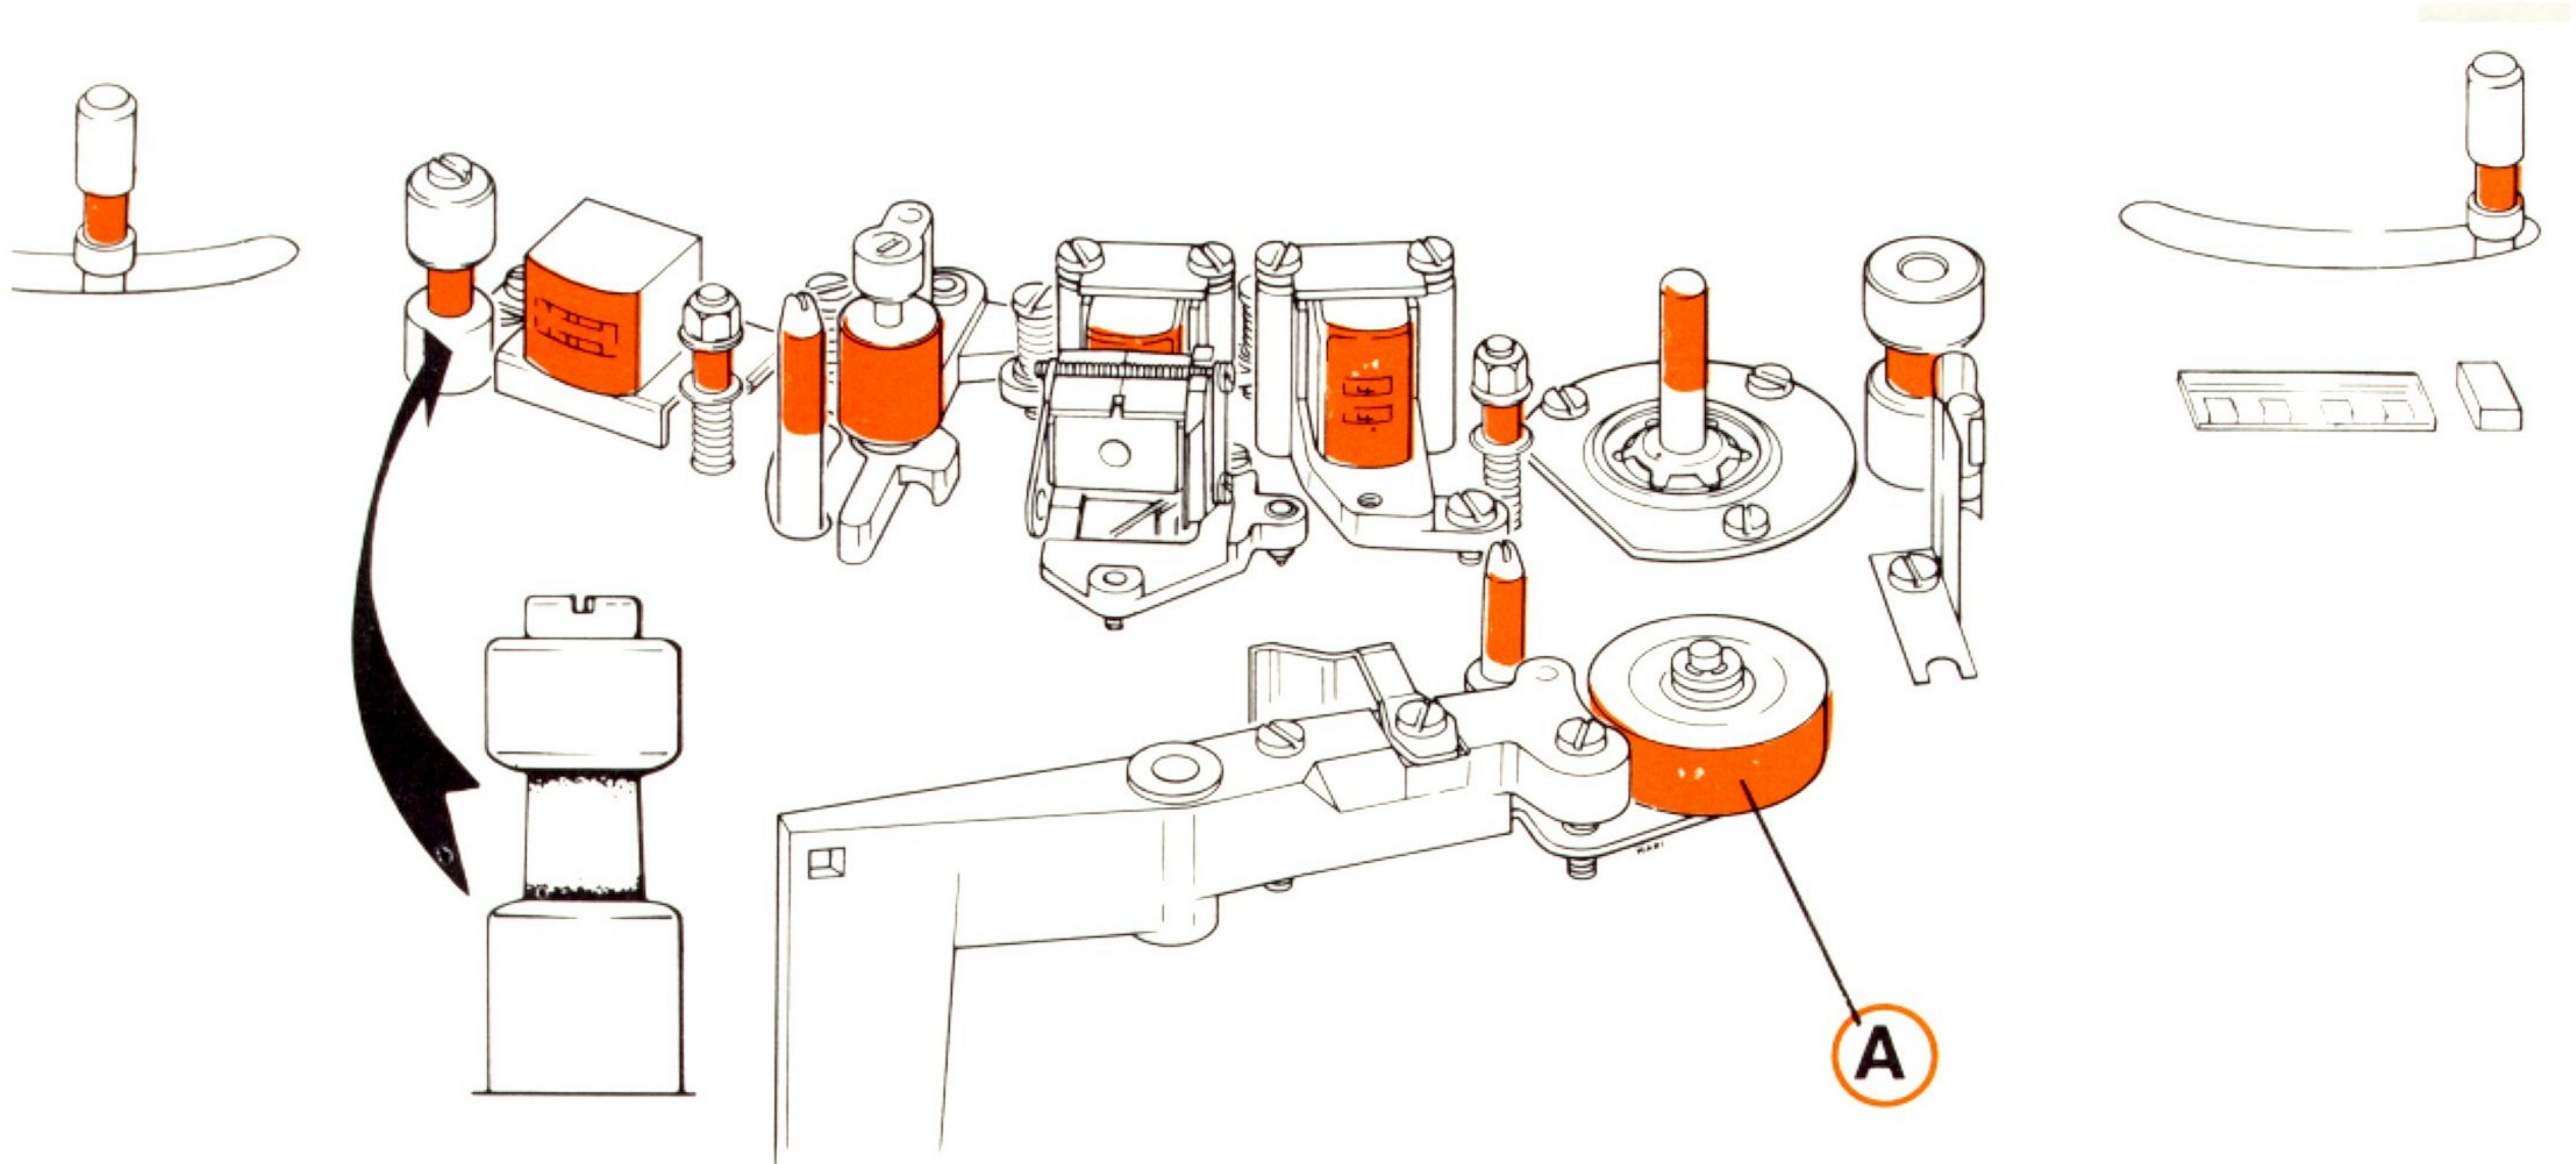

Fig. 2.1 Where to clean
The parts of the tape deck that are in contact with the tape surface should be cleaned regularly, otherwise the sound quality will be greatly reduced. See Figure 2.1
Cleaning the capstan and pinch roller is important to avoid wow and flutter. The pinch roller, Figure 2.1-A needs to be cleaned only if the tape motion is uneven or if there are visible deposits on the roller. Four to six times a year should be satisfactory.
2. Clean the front of the tape heads and the tape guides. (The spots indicated in colour on Figure 2.1).